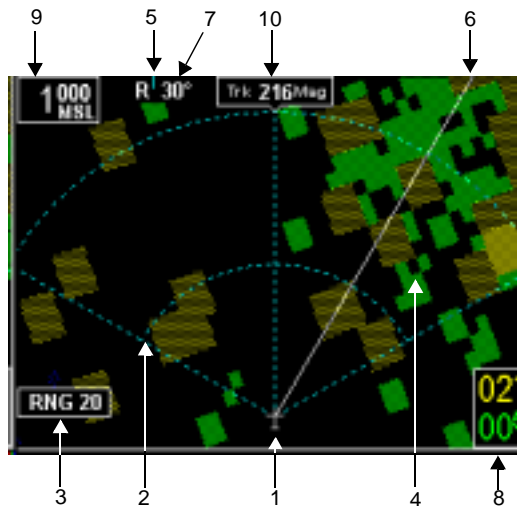

Figure 2: GroundProx Data Page
2. **Range Rings** - Range rings are shown as dotted cyan lines. Radius to outer ring is shown in Range annunciation. Inner ring is one half the outer ring. Range rings can be displayed in the forward (arc) view or centered (ring) view. Figure 2 is shown in forward view.